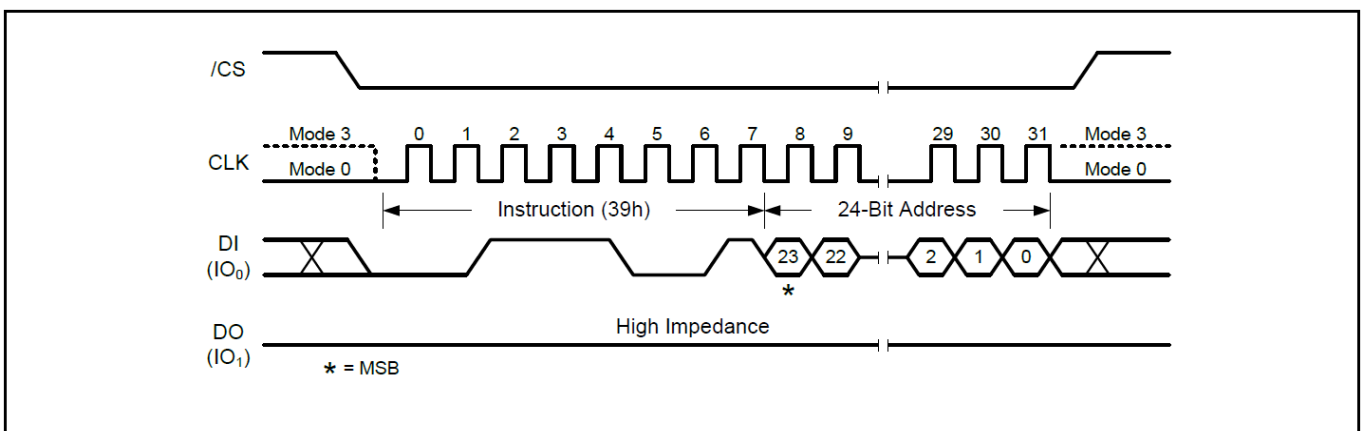

Figure 37. Individual Block/Sector Unlock Instruction for SPI Mode
To unlock a specific block or sector as illustrated in Figure 37, an Individual Block/Sector Unlock command must be issued by driving /CS low, shifting the instruction code “39h” into the Data Input (DI) pin on the rising edge of CLK, followed by a 24-bit address and then driving /CS high.